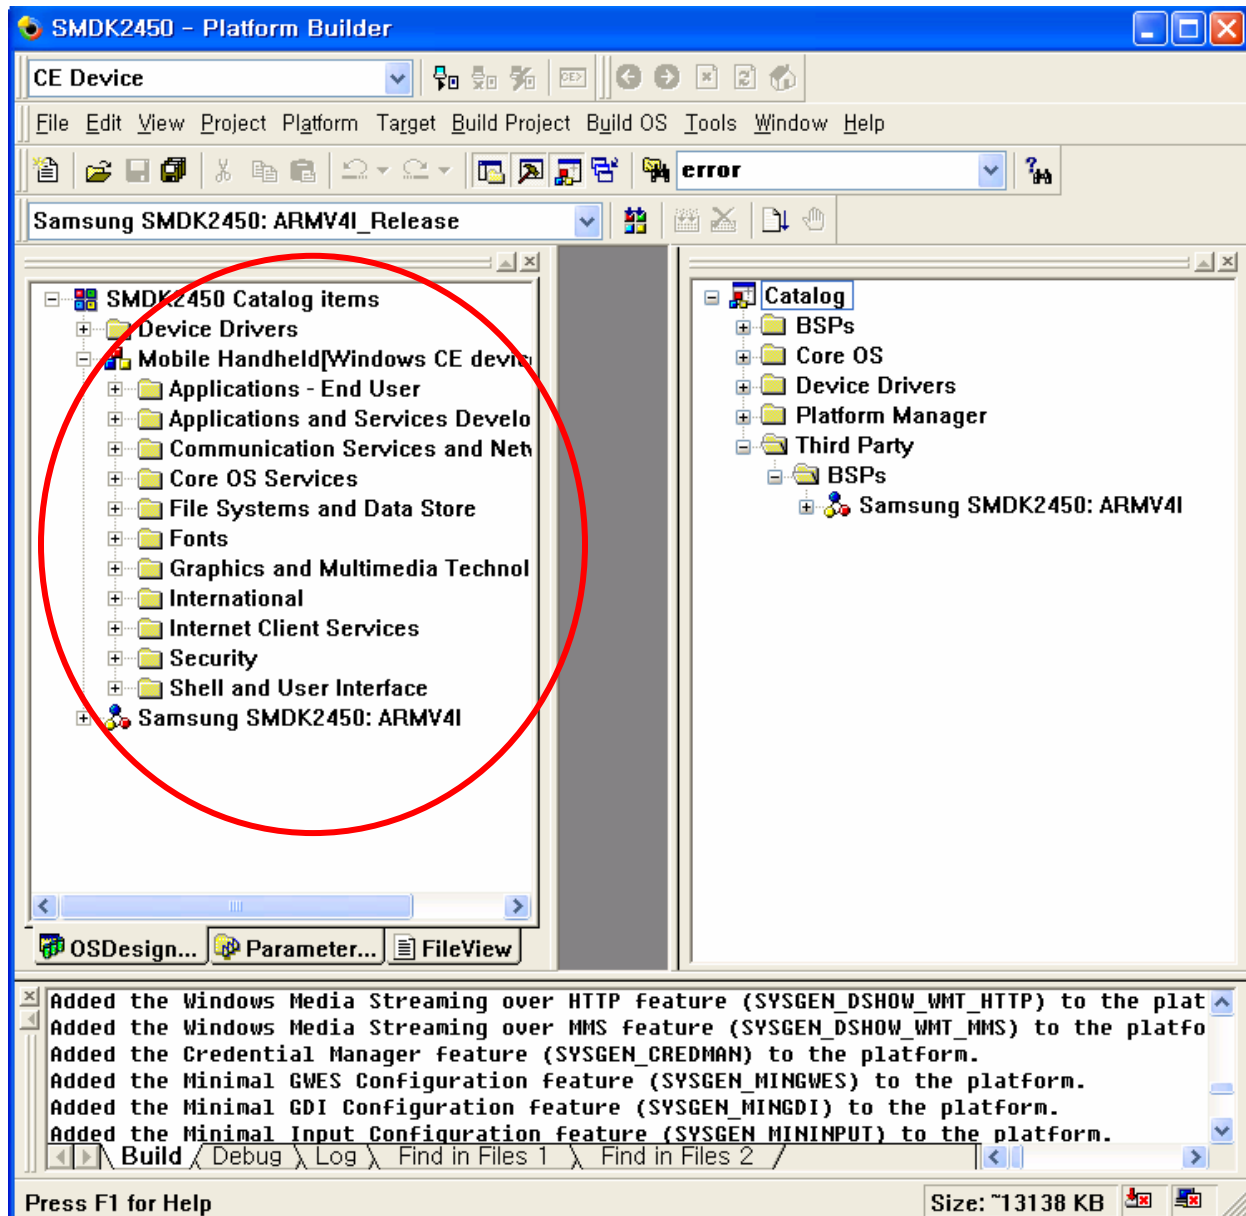

Figure 4-1 New Platform Items
2. In the Platform Builder window on your host PC, you can see the new platform created along with its various sub-directories on the left hand side as shown in figure 4-1.